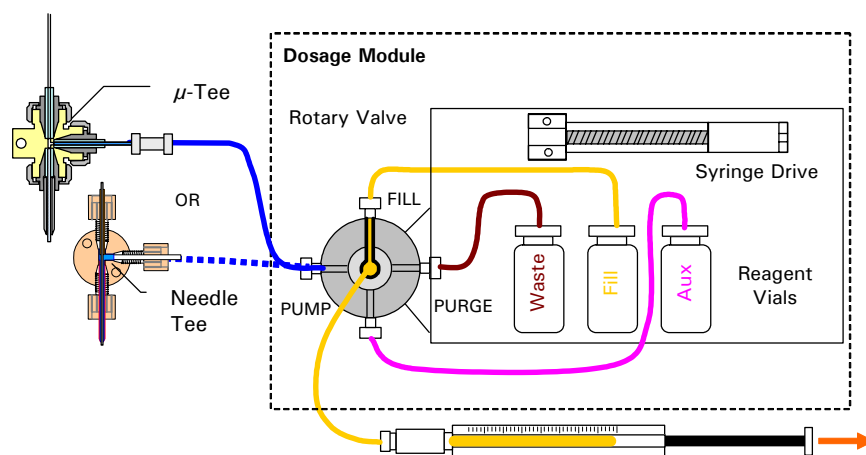

FIGURE A-3 Step 2 – Fill the Syringe
- b) Switch the rotary valve into the FILL position and withdraw the reagent solvent from the vial. Fill the syringe completely and make sure that enough reagent solvent is in the vial (FIGURE A-3).